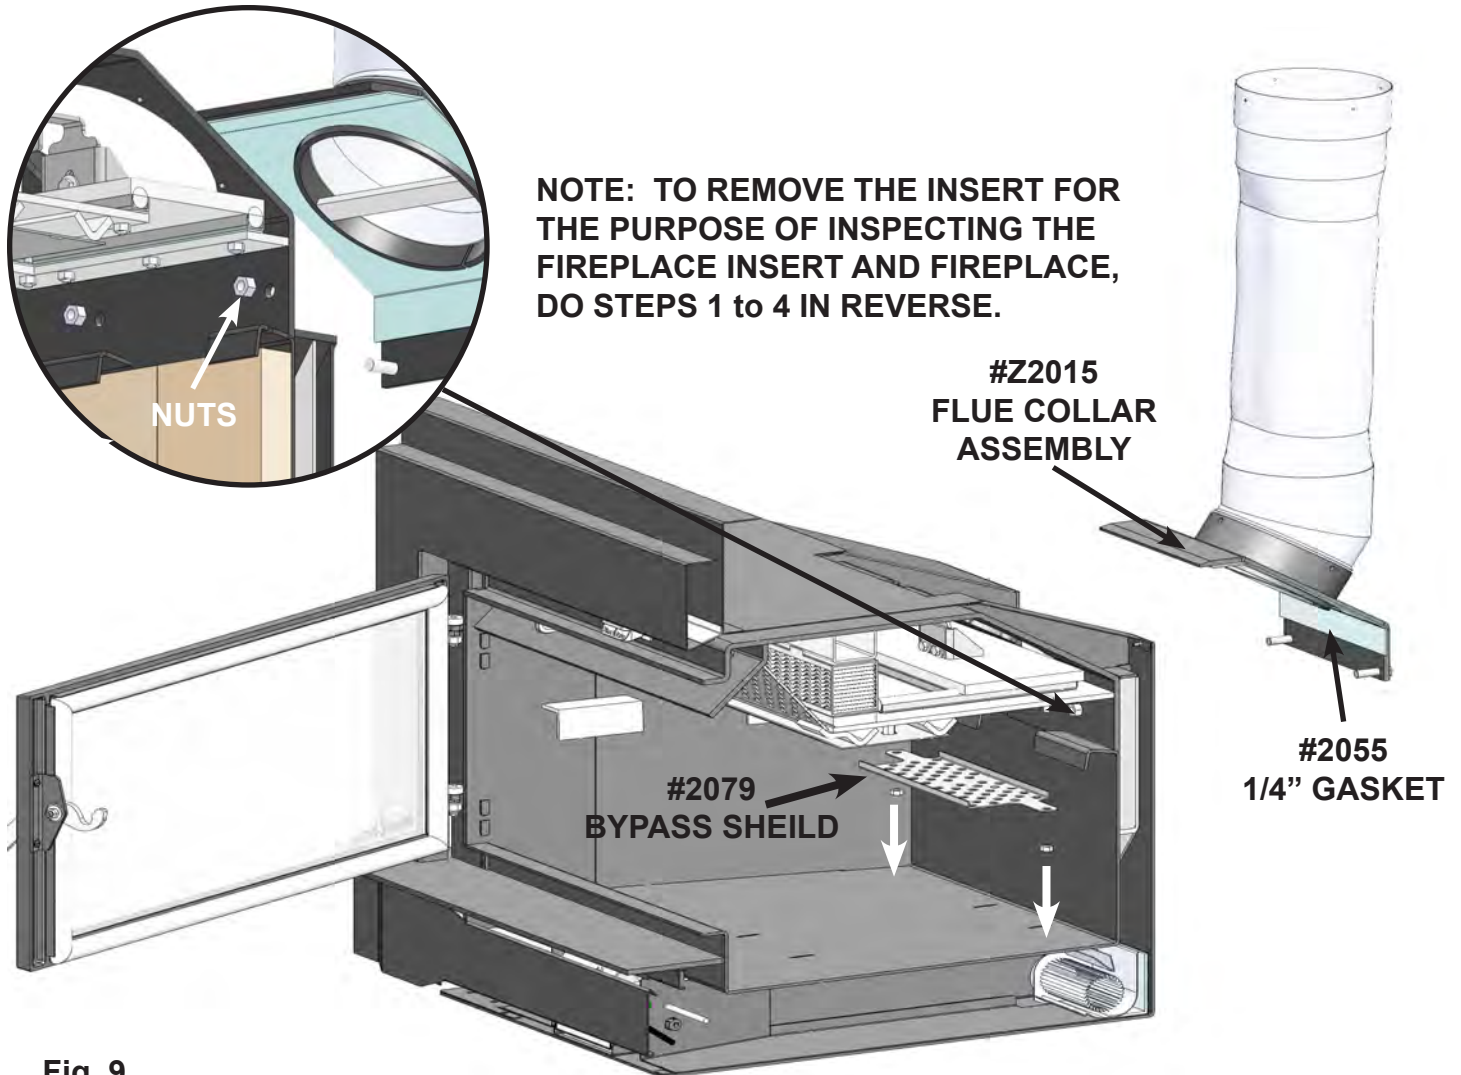

Fig. 9
3. Once sealed, fasten flue collar assembly to firebox using a 9/16" wrench, and the supplied stainless steel nuts (Fig. 9). Tighten flue adapter bolts evenly so a tight seal is maintained.